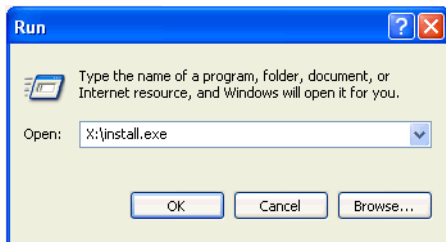

Figure 4 Run dialog
- 11 In the Run menu, type `X:\install.exe` where X is the letter of your CD-ROM drive. (Figure 4 on page 6)